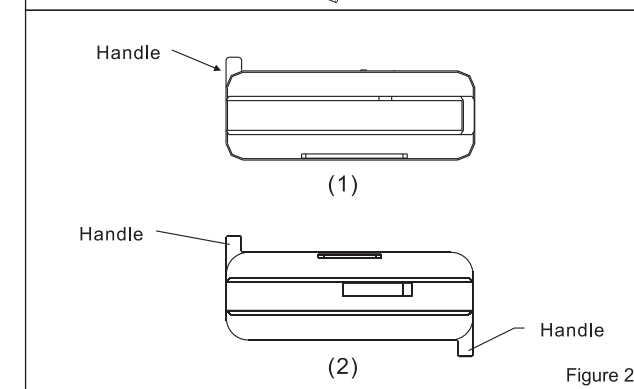

Figure 2
3. Before installation , adjust the handle to the position shown in (Fig.2) prior to installation.